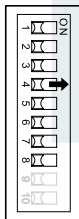

Fig. 7b: Inhibiting coin
- 2 Use a pointed object to push the respective DIL switch (1 to 8) toward the right-hand side to ON (e.g. DIL switch 4 for inhibiting coin channel 4, see Fig. 7b). The coin channel assigned to this switch will no longer be used for acceptance of coins.